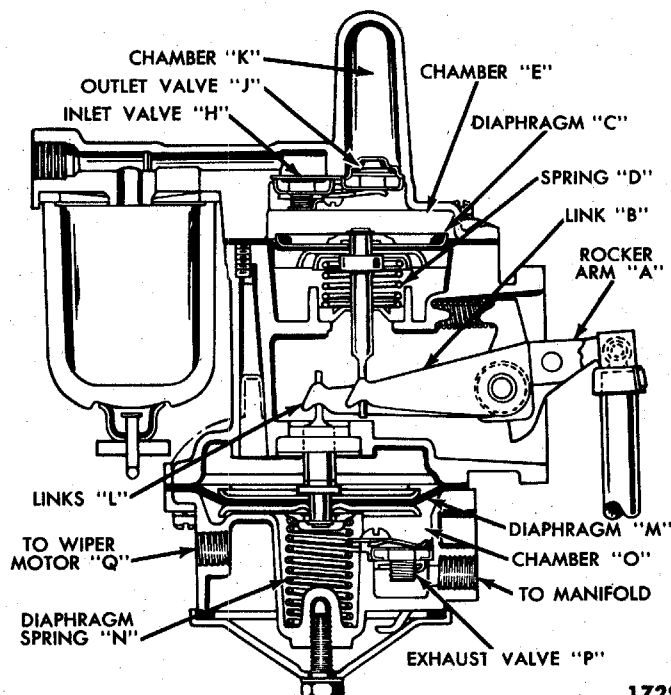

Fig. 60—Fuel Pump and Vacuum Booster
(1) **OPERATION.** The rocker arm "A" actuated by the pump push rod, as shown in fig. 60, moves the two links "L" to which the booster diaphragm "M" is hooked, downward against the diaphragm spring "N" which expels the air in the lower pump chamber "O" through the exhaust valve "P" and through the line to the intake manifold. On the return stroke, the spring moves the diaphragm upward, creating a suction in the pump chamber "O," opening the intake valve and drawing air through the inlet line "Q" from the windshield wiper.
When the windshield wiper is not being used, the manifold vacuum holds the diaphragm down against the spring pressure so that the diaphragm does not make a complete stroke for every stroke of the rocker. Figure 60 shows a cross-section of the combination fuel and vacuum booster pump.